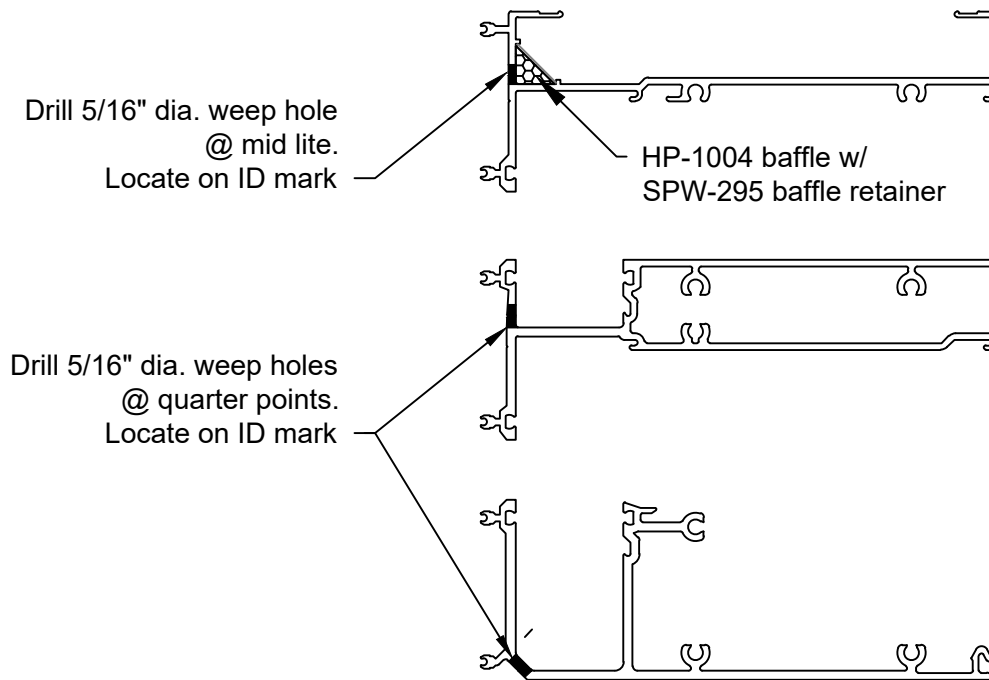

FIGURE 3
- 1.4 Drill 5/16" dia. weep holes at 1/4 points in horizontal and sill members as shown in FIGURE 3, page 9. Where incidental water control is required, drill one 5/16" diameter weep hole at mid-lite of head member. Locate HP-1004 baffle and snap SPW-295 baffle retainer behind weep hole. See FIGURE 3.